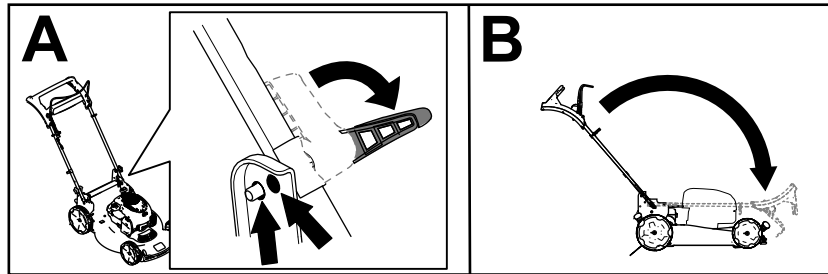

Figure 18
2. Disengage the handle locks until you can move the upper handle freely (A of Figure 18)
3. Fold the handle forward to the fully forward position (B of Figure 18).